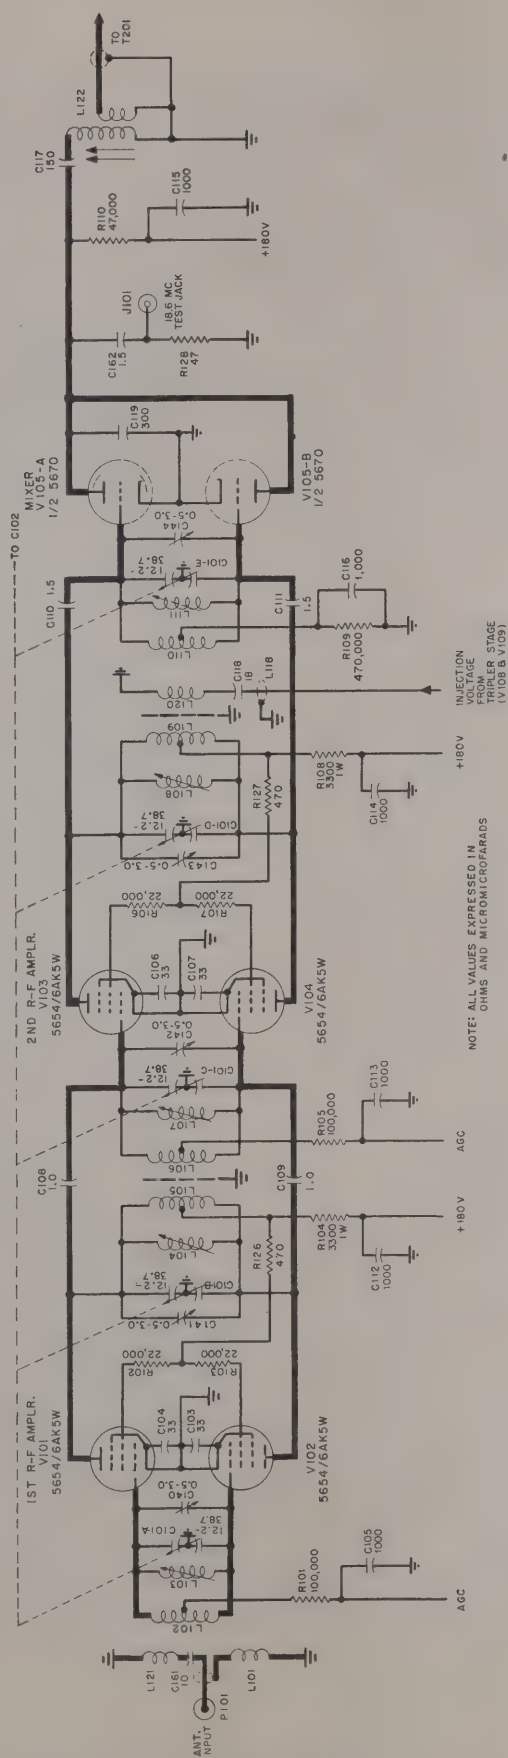
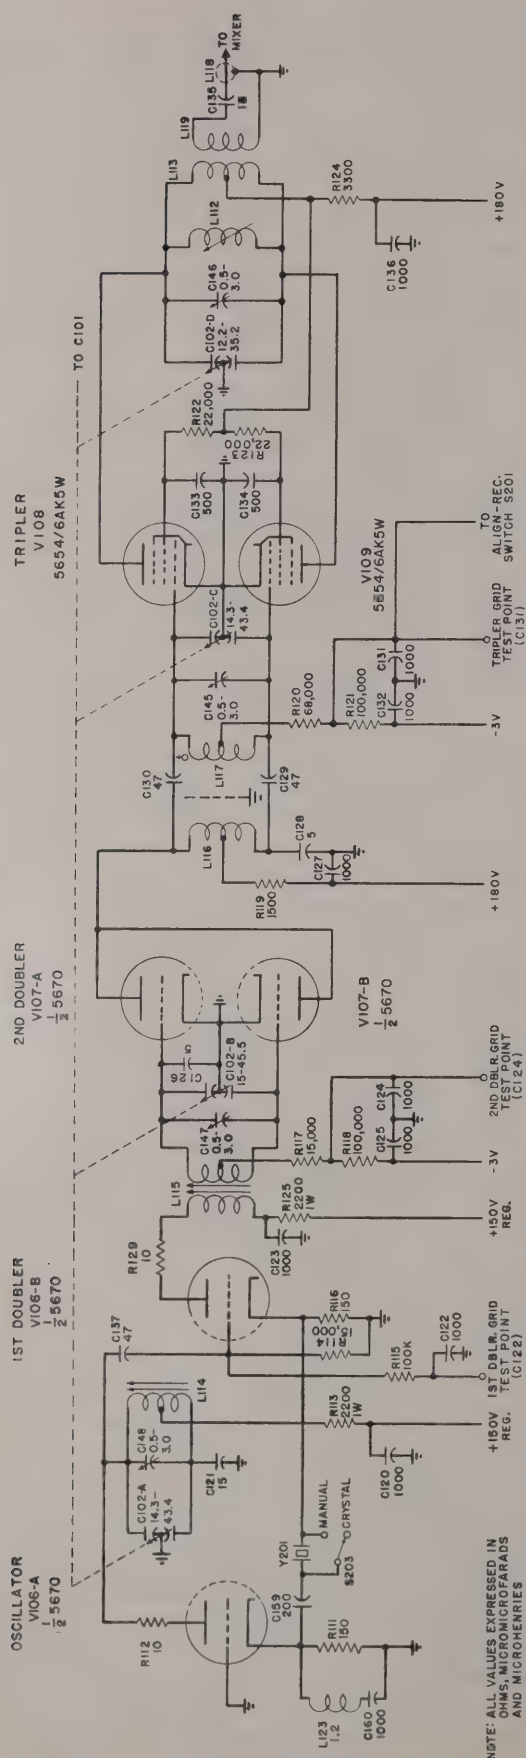

Figure 2-4. R-F Amplifier Section of Preslector, Simplified Schematic Diagram
Figure 2-5. Oscillator-Multiplier Section of Preset Selector, Simplified Schematic Diagram
A short piece of coaxial cable in the filter extends the antenna transmission line to connector J407, at the rear of the filter base plate (figure 3-3). This connector, in turn, plugs into coaxial receptacle P101, from which the antenna circuit extends to the tuned circuit, composed of L101, C161, and L121; see figure 2-4. This circuit is inductively coupled to L102, in the input circuit of the first r-f stage.
(c) **FIRST R-F AMPLIFIER.**—As shown in the simplified schematic diagram, figure 2-4, the antenna circuit is coupled to the grid-input circuit of this stage. The grid circuit consists of tank inductance L102, trimmer inductance L103, section A of capacitor C101, and trimmer capacitor C140. Critical coupling is employed to maintain uniform sensitivity over the entire frequency range. Two type 5654/6AK5W tubes, V101 and V102, are operated in push-pull. The push-pull arrangement approximately halves the tube and circuit capacitance and inductance, permitting a greater range of frequency coverage and higher circuit efficiency. AGC voltage is applied to the grid circuit of this stage through decoupling resistor R101 and the center tap of coil L102. A feed-through type r-f bypass capacitor (C105) functions to bypass the AGC line at this point; this capacitor is located in the casting wall. Plate and screen voltages are brought through resistor R104; the supply is bypassed to ground at this point by capacitor C112. Resistors R102 and R103 are screen-voltage dropping resistors, while resistor R126 decouples the plate and screen circuits. The screen grids are bypassed to ground by the interelectrode capacitances of the tubes and by the stray capacitance of the socket and the socket wiring. Capacitors C103 and C104, in the cathode circuits, bring the cathodes closer to r-f ground potential by creating series-resonant circuits with the inductance of the cathode leads. The plate circuit is similar in design to the grid circuit and consists of tank inductance L105, section B of C101, trimmer inductance L104 and trimmer capacitor C141. Plate voltage is brought through resistor R104 to the center tap of coil L105. No appreciable inductive coupling exists between the plate circuit of the first r-f stage and the grid circuit of the second r-f stage because coils L105 and L106 are shielded from each other by the wall of the casting. Coupling between these two stages is accomplished by means of capacitors C108 and C109, which are connected from the plate circuit of the tubes in the first stage to the grid circuit of the tubes in the second stage.
(d) SECOND R-F AMPLIFIER. — This stage, employing tubes V103 and V104 in push-pull, is identical in design and in circuit constants to that of the first r-f stage; see figure 2-4. The tuned grid circuit consists of section C of capacitor C101, tank inductance L106, trimmer inductance L107 and trimmer capacitor C142. The plate circuit consists of section D of capacitor C101, tank inductance L109, and trimmers L108 and C143. AGC voltage is brought to the center tap of coil L106 through decoupling resistor R105; the AGC line is bypassed to ground by capacitor C113. Plate and screen voltages are brought through resistor R108; the supply is bypassed to ground at this point by capacitor C114. Resistors R106 and R107 are screen-voltage dropping resistors, while resistor R127 decouples the plate and screen circuits. The screen grids are bypassed by the interelectrode capacitances of the tubes and by the stray capacitance of the socket and socket wiring.
(e) MIXER. — The mixer, or first detector, stage employs a type 5670 dual triode, V105, in a push-push arrangement; see figure 2-4. The grids are connected in push-pull through the resonant circuit consisting of section E of capacitor C101, tank inductance L110, trimmer capacitor C144, and trimmer inductance L111. The plates of the two triodes are connected in parallel and are shunt-fed through resistor R110. Plate voltage is blocked from the grounded primary of L122 by capacitor C117. This capacitor and C119, connected in series, resonate with L122 at the intermediate frequency of 18.6 mc. The plates of V105 are connected to the junction of the two capacitors in order to provide impedance matching between the tube and the tuned circuit. With the push-push arrangement of the mixer, a high order of conversion gain is obtained because the push-push conversion transconductance is approximately twice that of a single converter tube.
The output of the second r-f stage is coupled to the grid circuit of the mixer stage by capacitors C111 and C110, while the output of the oscillator-multiplier circuit is inductively coupled to the grid circuit of the mixer through a coupling loop consisting of inductance L119 and capacitor C135 in the oscillator-multiplier unit (figure 2-5), and inductance L120 and capacitor C118 on the r-f converter (figure 2-4). L118 provides the inductive coupling between the oscillator-multiplier and the r-f amplifier. This coupling arrangement maintains a more uniform mixer-injection voltage over the frequency range of operation. The values of capacitors C118 and C135 are so chosen that, together with the shunt capacity of the short coaxial connecting line and the coupling coils, the loop is series resonant at a frequency (190 mc) below the low end of the band, and parallel resonant at a frequency (470 mc) above the high end of the band. Consequently, at the low-frequency end, the transfer voltage induced in the converter input tank is increased, while at the high end of the band the induced transfer voltage is reduced. If the coupling were not resonant, as described above,
(2) OSCILLATOR - MULTIPLIER SECTION. — The oscillator-multiplier section generates a local injection signal 18.6 mc higher in frequency than the received signal. The basic oscillator frequency is generated in triode V106-A and is multiplied twelve times in the two doublers and one tripler which follow, as shown in the simplified schematic diagram, figure 2-5. When the OSC. switch, S203, is in the MANUAL position, the range of the oscillator is from 20.2063 to 35.05 mc, and the frequency at the plate of the tripler may range from 242.475 to 420.6 mc, allowing the radio receiver to operate over a frequency range of from 223.875 to 402.0 mc. When switch S203 is in the CRYSTAL position, the radio receiver will operate at the frequency determined by the crystal unit, within the frequency range of 222.75 to 404.0 mc. Thus, crystal frequencies between 20.1125 and 35.2167 mc may be used.
(a) OSCILLATOR-FIRST DOUBLER.—The oscillator and first doubler stages utilize a type 5670 dual triode; see figure 2-5. One half of the tube, V106-A, functions as a grounded-grid oscillator. The second half of the dual triode, V106-B, is arranged as a split-load cathode follower, and serves as both a frequency doubler and a source of feedback to the oscillator cathode.
In the actual circuit (figure 2-5), V106-A and V106-B correspond, respectively, to V1 and V2. Y201 corresponds to Y1, while R111, R116 and C137 are equivalent to R1, R2 and C1, respectively. The oscillator tank circuit (L114, C102-A and C148) corresponds to the simplified components, L and C. The plate circuit of the first doubler, V106-B, is tuned to the second harmonic of the oscillator frequency. Therefore, the plate-circuit impedance at the oscillator frequency is very low, resulting effectively in grounded-plate (cathode follower) operation of V106-B at that frequency.
(b) SECOND DOUBLER.—The second doubler stage employs the two sections of the type 5670 dual triode, V107, in a push-push circuit arrangement; see figure 2-5. The grid circuit is balanced and is tuned to the second harmonic of the oscillator frequency. The tuned circuit consists of the center-tapped secondary winding of transformer L115, section B of ganged capacitor C102 and trimmer capacitor C147. Capacitor C126 compensates for the capacitance unbalance to ground in the secondary winding of transformer L115.
(c) **TRIPLER.**—The tripler stage employs two type 5654/6AK5W pentodes, V108 and V109, in push-pull; see figure 2-5. The parallel-resonant grid circuit consists of inductance L117, section C of capacitor